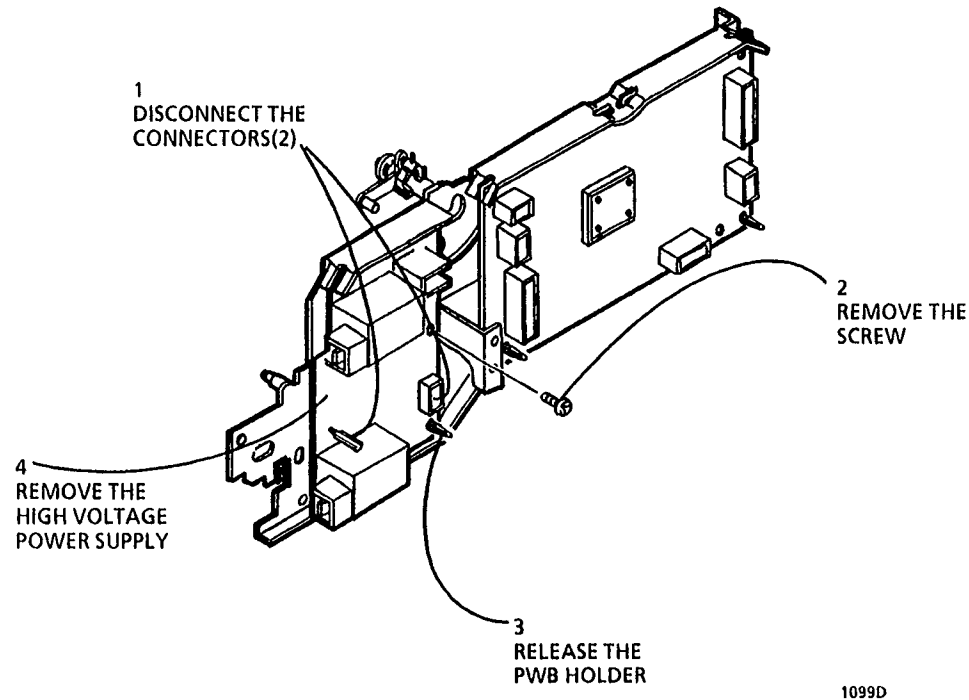

Figure 1. Removing the High Voltage Power Supply
4. (Figure 1): Remove the High Voltage Power Supply.